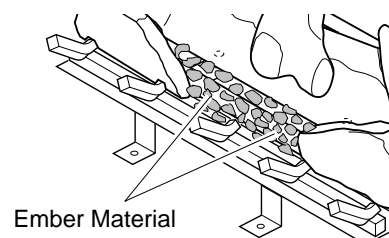

Figure 51 - Placing Ember Material on Burner
7. Pull ember material apart into pieces no larger than a dime. Place these pieces loosely and sparingly directly onto the exposed section of the front burner and along the space between the burner and grate prongs (see Figure 51). This will create the glowing ember appearance as the flame touches the ember material. Do not block air slots by using too much ember material in one area. It is not necessary to use all of the ember material provided.